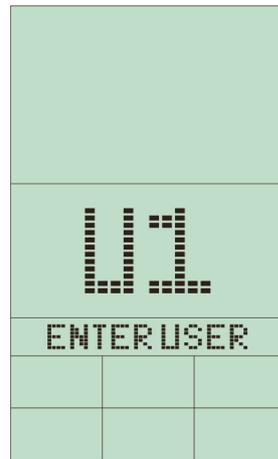
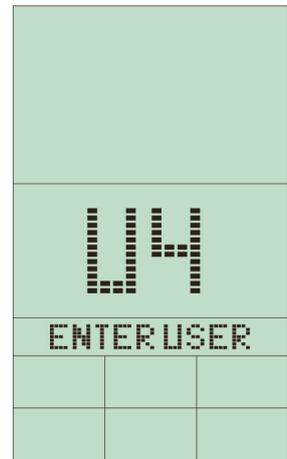

Figure 3
Figure 4
2. There are four user accounts in the console (U1-U4). Turn the control knob to select a user (1-4) and press ENTER to confirm (see fig. 3 and fig. 4).